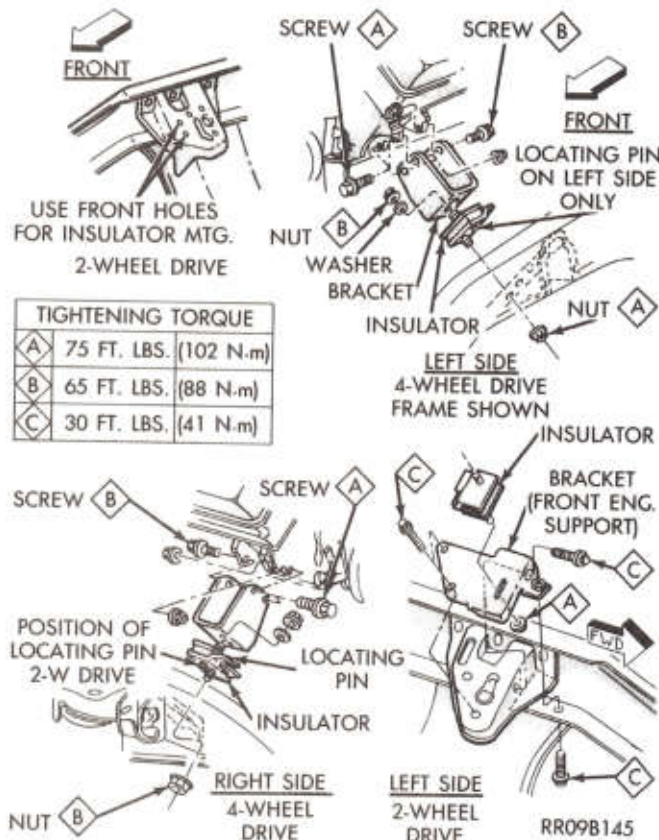

Fig. 1—Engine Mounts, Front, 8 Cylinder Engines
ENGINE FRONT MOUNTS (Fig. 1)
- (1) Raise hood and position fan to assure clearance for radiator top tank and hose.
- (2) Raise vehicle on hoist.
- (3) Install engine lifting fixture Tool C-3487-A, with adapter rods DD-2179.
- (4) Remove nuts from brackets and insulators. (Fig. 1).
- (5) Raise engine with lifting fixture only far enough to remove mounts.
- (1) With engine raised **slightly**, install insulators and brackets.
- (2) Lower engine with lifting fixture while guiding insulator studs into attaching holes in crossmember and brackets.
- (3) Tighten attaching nuts and bolts to specified torques. (See Fig. 1).
- (4) Remove lifting fixture.